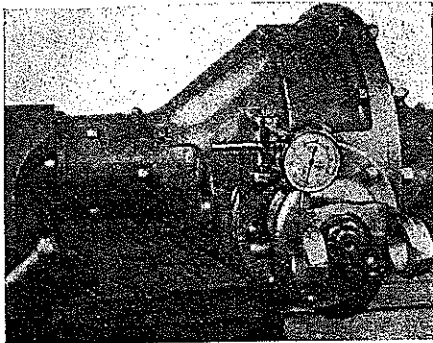

Fig. 179 Checking gear lash with dial indicator
2. Check gear lash with dial indicator from a position 2" from pinion shaft center, Fig. 179. The amount indicated at this point will be twice the amount of the actual gear lash.